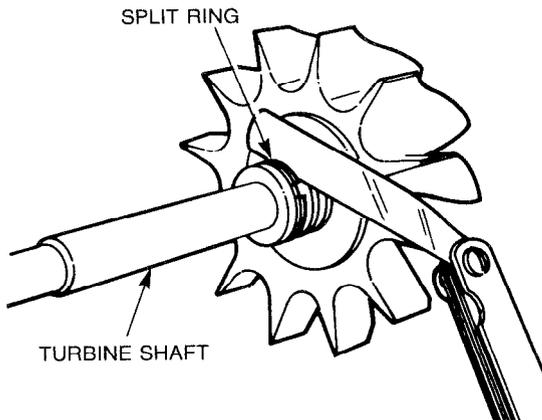

Figure 144 — Measuring Split Ring Seal Clearance
- e. Install new split ring seals into the grooves in the turbine shaft, then using a set of feeler gauges measure the side clearance between the split rings and the grooves (see Fig. 144). The standard clearance is 0.038-0.08 mm (0.0015-0.003 in.) replace the turbine wheel and shaft if the clearance exceeds 0.13 mm (0.005 in.).